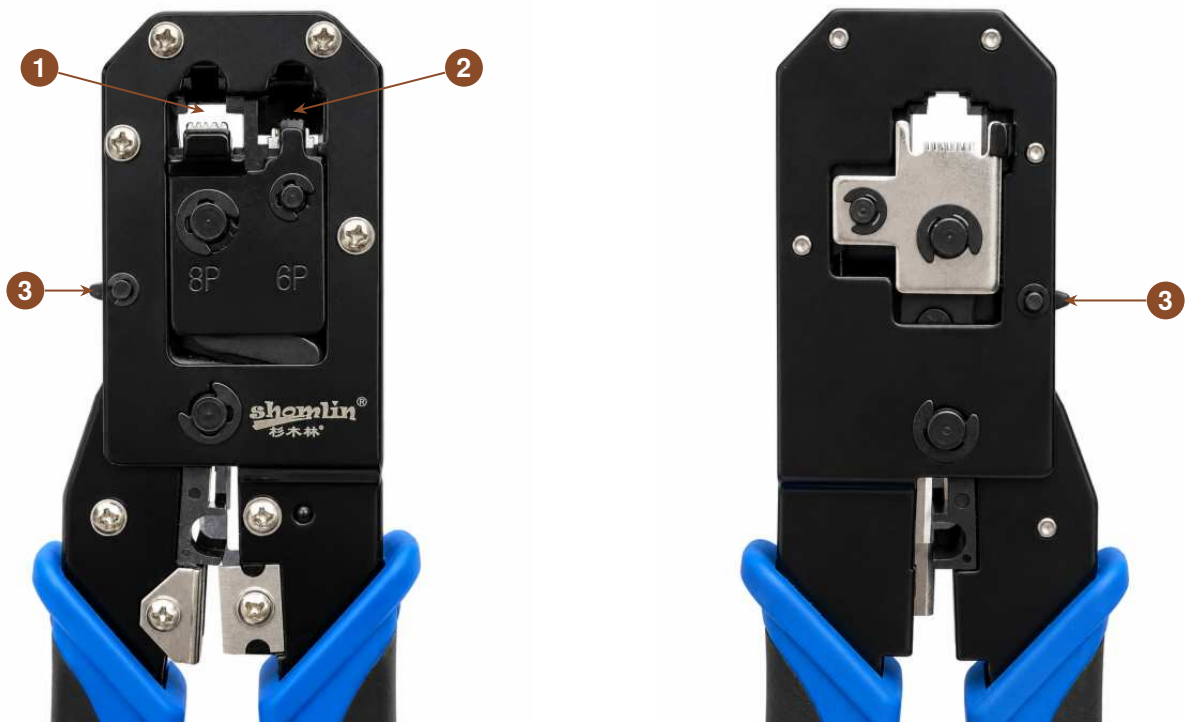

Figure 1-1 Jaw front (left) and back (right). 1: 8P die; 2: 6P die; 3: release control.
2. Operate the side release control to disengage the hold and let the tool spring open. The release control is marked 3 in Figure 1-1.